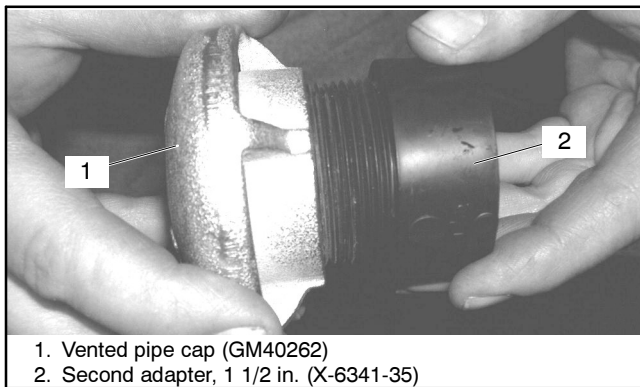

Figure 19 Assemble Vented Pipe Cap and Adapter
2.3.5 Attach vented pipe cap GM40262 to second 1 1/2 in. adapter X-6341-35. See Figure 19.